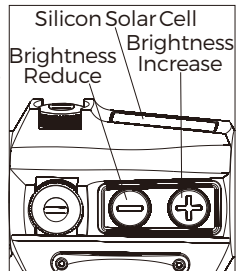

Fig 7
1. Switch ON: Press and release either brightness button ("+" or "-") to turn on the sight. (see Fig 7)